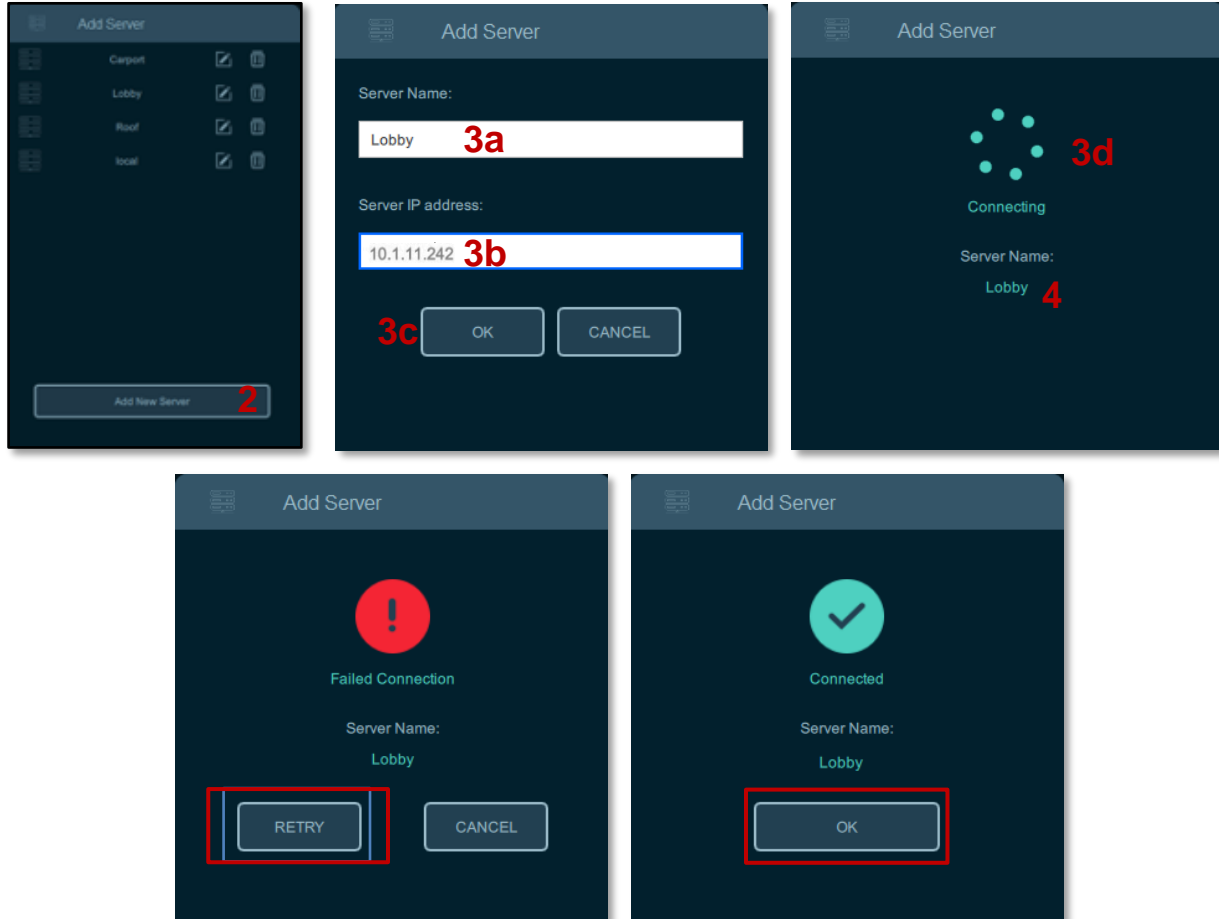

Figure 20. Add Server Sequence
2. From the **Add Server** panel, click the **Add New Server** button. See Figure 20. Add Server Sequence.